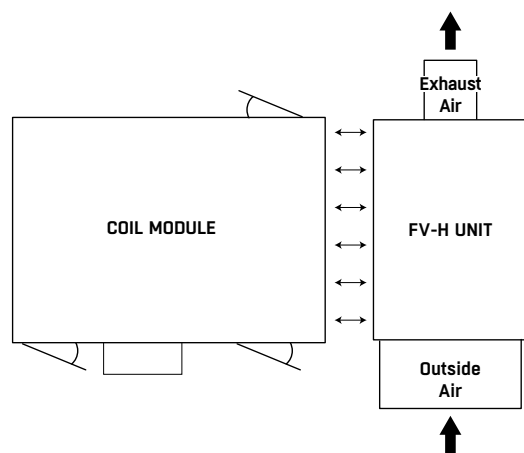

FIGURE 7.
2. Butt the FV unit and coil module unit up to each other as tightly and squarely as possible. Be sure that the unit faces match up uniformly and tightly around their entire perimeter so there are no gaps – particularly along the bottom edge. The coil module supply air side (the side with filters, coils and fans) should match the Supply air opening on the FV unit. Proper orientation will result in the coil module supply fan at the end furthest from the FV unit. (See **FIGURE 7**)